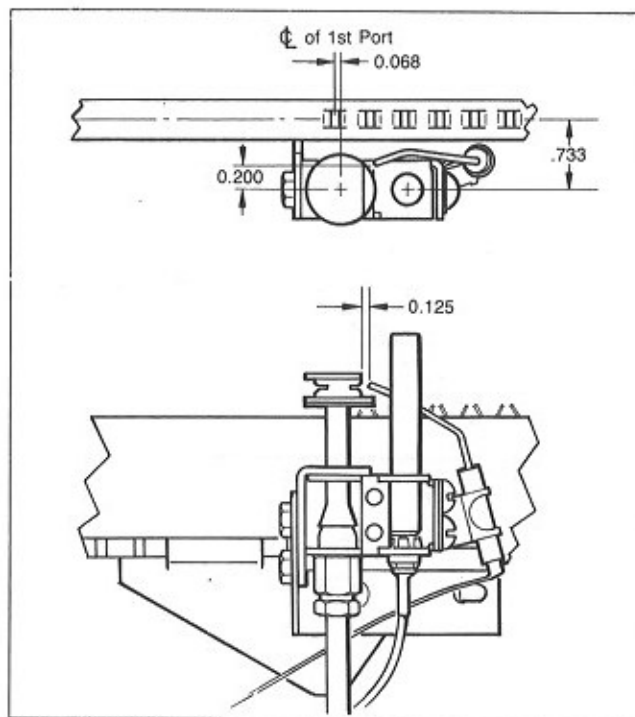

Figure 19. Pilot Alignment
- Is the pilot properly aligned (see Fig. 19)?